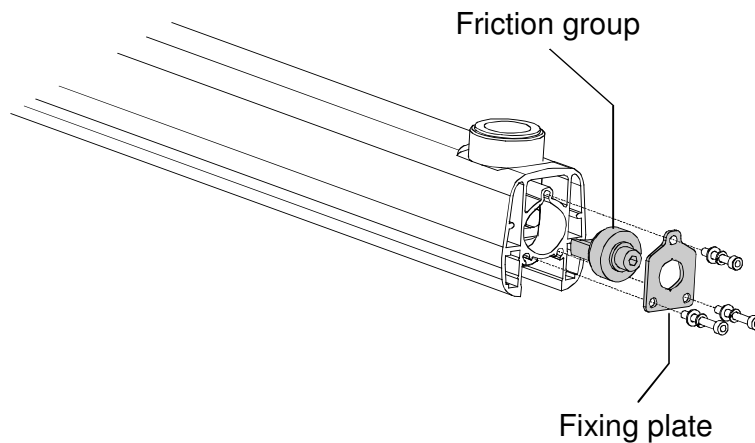

Figure 6-5
6. Mount the friction group and fix the plate using the shorter screw in the top hole (Figure 6-5). Tighten the grub screw until it is frictioned but don't force the friction. It has to be adjusted only if necessary.